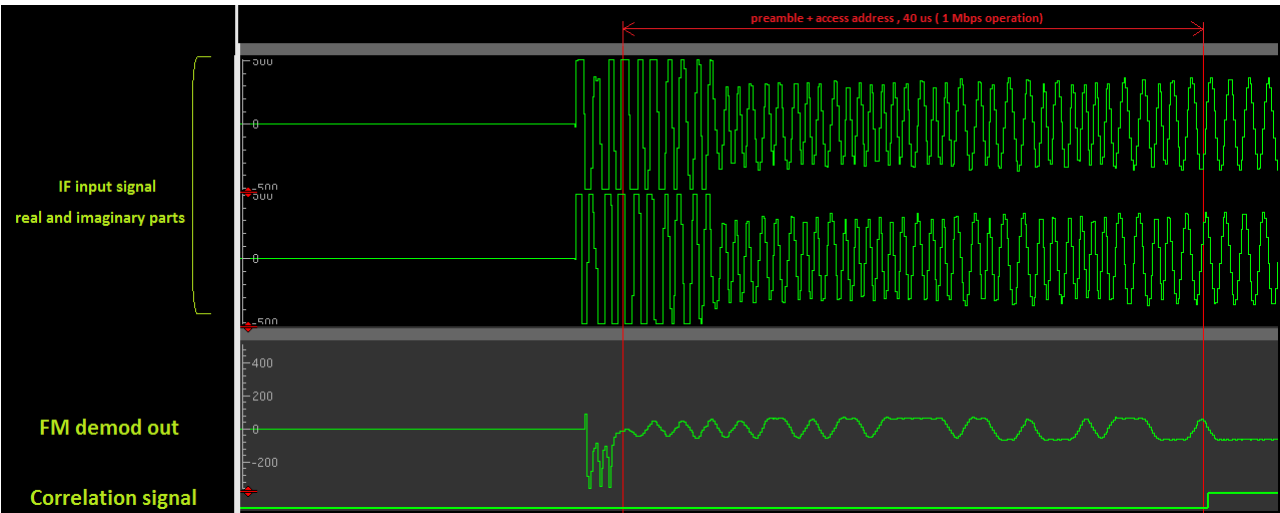

Fig 136. Burst detector
- The preamble and the access address (known and given by the link layer) are correlated to the FM-demodulated signal (see Figure 136 “Burst detector”).